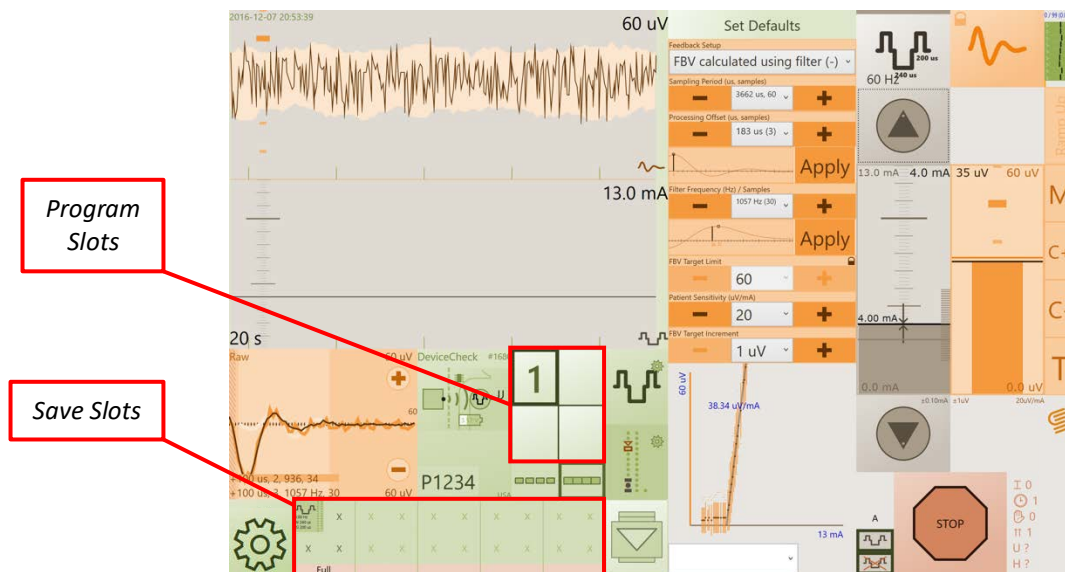

Figure 6.23: Location of the program slots and save slots on the CPA.
The CLS and eCLS can each hold up to four different programs. The four program slots display the programs currently stored in the CLS or eCLS (see Figure 6.23). Any program that is run on the stimulator (stimulation turned on) is automatically saved to the selected program slot.
1. Touch the desired *program slot* (see Figure 6.23); you will see a number corresponding
1. Touch an empty *save slot* and select *Save* to save all the current programs to that slot (see Figure 6.23).